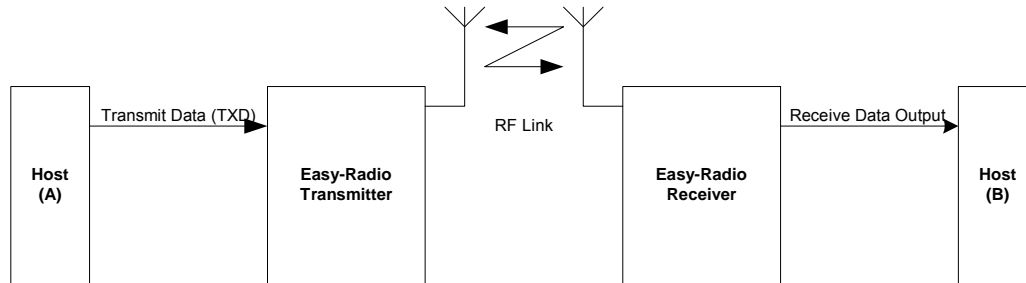

Figure 5 Typical System Block Diagram
Figure 5 shows a typical system block diagram comprising hosts (user's application) connected to Easy-Radio Transmitters and Receivers. Host (A) will be monitoring (collecting data) and Host (B) will be receiving and processing this data.